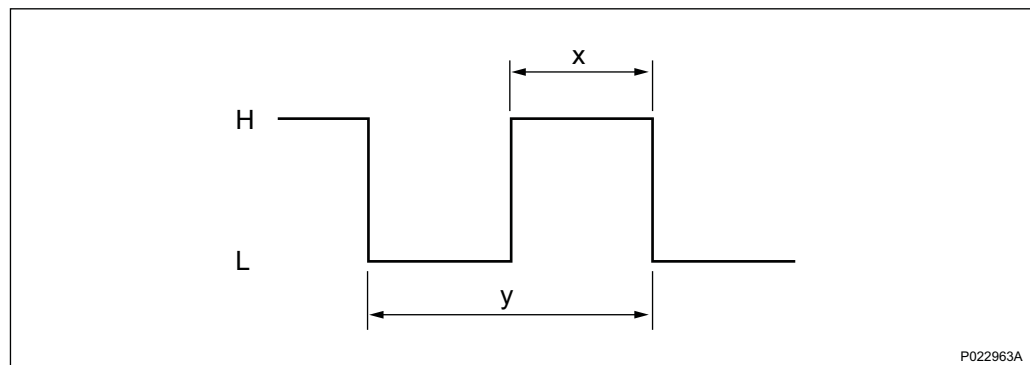

Figure 7 Pulse-width Modulation
The duty cycle (D) describes the proportion between the time the voltage is “high” (x) and the whole period (y). $D = x/y$, see Figure 7. It is possible to set a high and low duty cycle threshold. The trigger threshold is 1.09 V. It is also possible to set a high and low frequency threshold.
The high “H” and low “L” time in the duty cycle is measured with 1μs accuracy, see Figure 7. It is possible to measure PWM signals down to 1Hz.